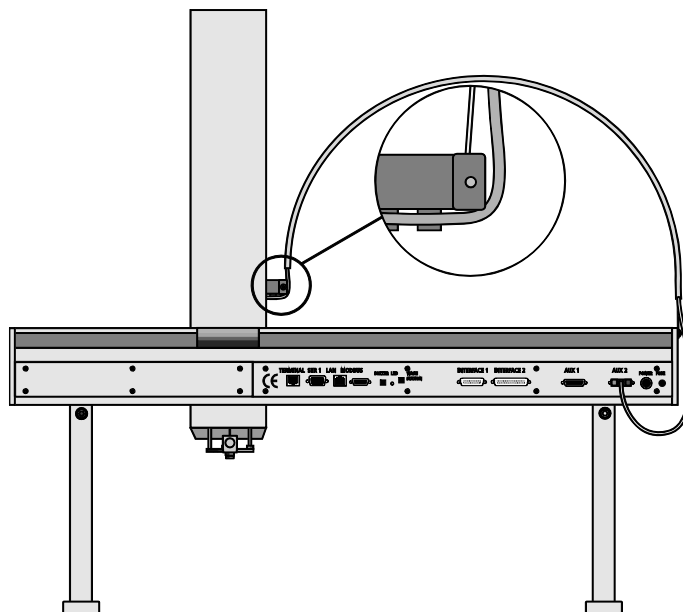

Figure 27. Heated Trap connected to the AUX2 Interface.
3. Connect the electrical cable from the heated trap to the interface 'AUX2' at the back side of the unit, as shown in Figure 27.